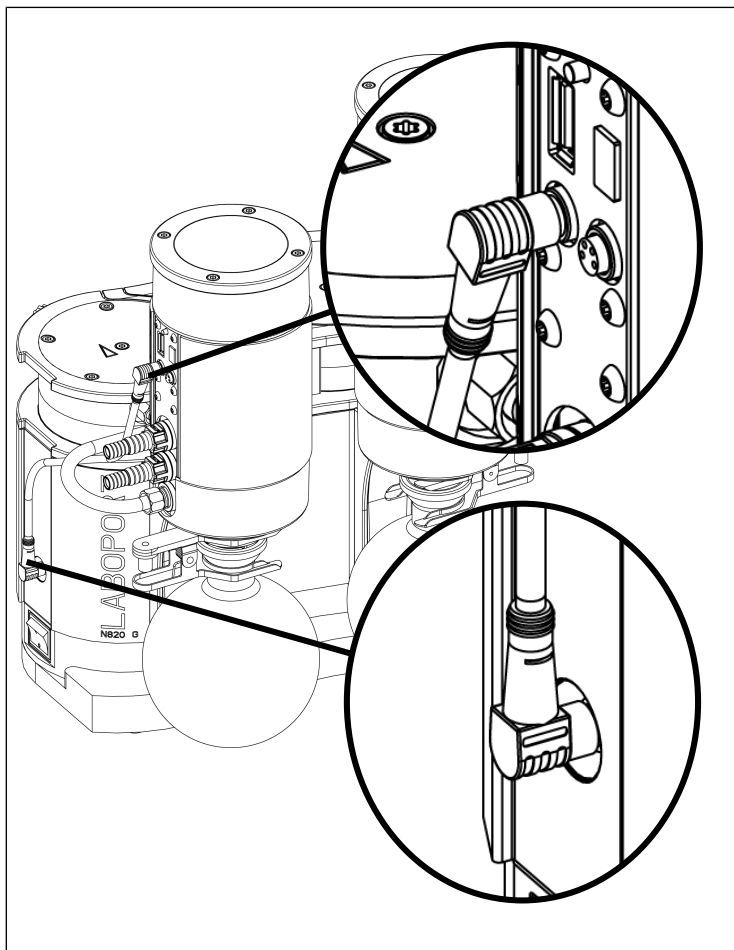

Fig. 7: Connecting the signal cable
1. Connect the signal cable to the pump (see Fig. 3/7) and the separator (Fig. 23/3) (see Fig. 7).
i Ensure that the signal cable is correctly aligned with the separator (30° angle; see Fig. 7).